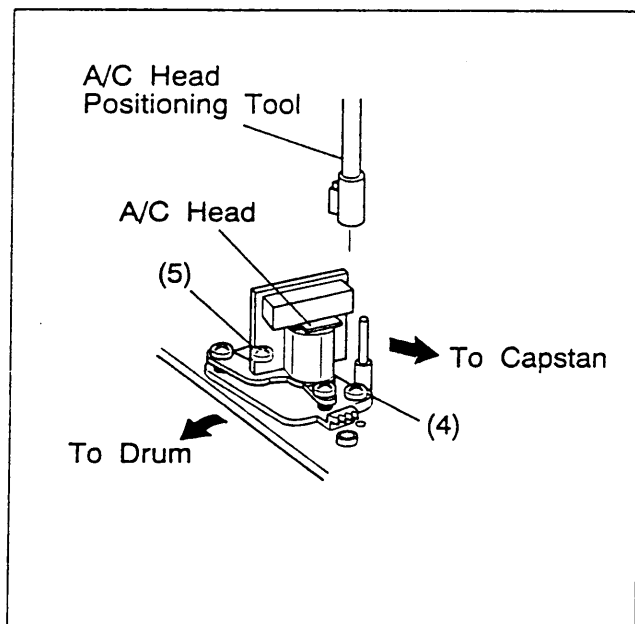

Fig. 2-7-6
- (1) Connect the oscilloscope to TP6(PB FM) on the PRE/REC board. Use TP11(D.FF) on the PRE/REC board as a trigger.
- (2) Playback the SP stairstep portion of the alignment tape [MHPE].
- (3) Set the neutral manual tracking position by pressing the **///** button on the remote controller or TV PROG **^-** and **^+** buttons simultaneously.
- (4) If adjustment is required, slightly loosen screws (4) and (5). Set A/C head positioning tool on the A/C head adjusting boss as indicated in Fig.2-7-6.